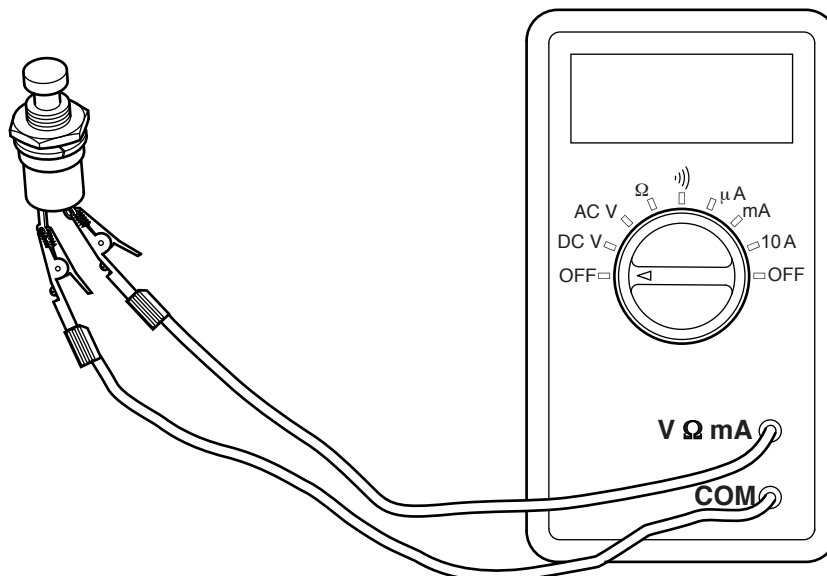

Fig. 14
- (iii) Fig. 14 shows the PTM switch connected to a multimeter ready for testing. Indicate on Fig. 14 the multimeter setting that should be used for the test.